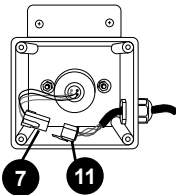

**FIGURE 2**
2. Once the UV bulb has cooled off remove the CLEARRAY System enclosure cover (9) and gasket (8) by removing the four screws (10). This will expose the UV bulb and connections, Figure 2.